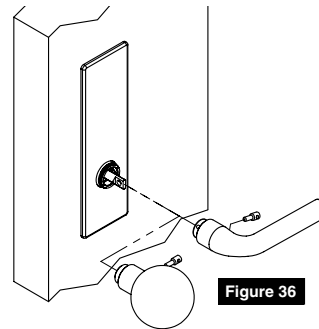

Figure 36
5. Install inside lever or knob by inserting dowel screw. (Figure 36)